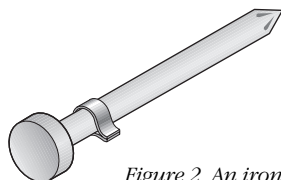

Figure 2 An iron nail in contact with copper
- Nail B Fold a narrow strip of copper foil in half, then push a nail between the two halves, slide the copper strip until it is just below the head of the nail, then crimp it tightly to make a good electrical contact, as in Figure 2.